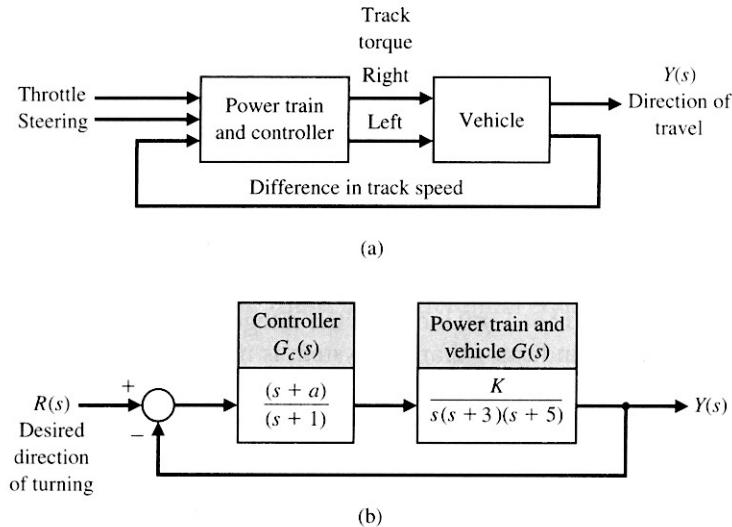

Figure 1 Tracked vehicle control system. (a) Turning control system for a two-track vehicle. (b) Linear system model.
The design of a turning control for a tracked vehicle involves the selection of two parameters. In Figure 1, the system shown in panel (a) has the model shown in panel (b). The parameters  $a$  and  $K$  affect the performance of the system, including its stability.
- Determine the closed-loop characteristic polynomial for the model shown in Fig. 1(b).